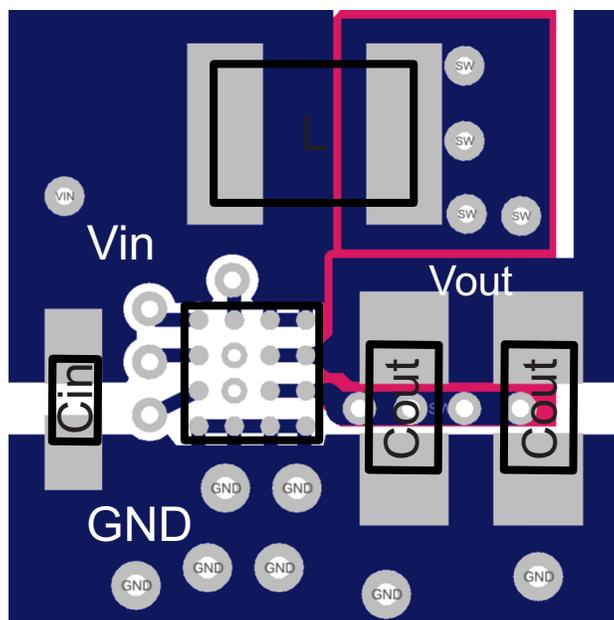

图 65. Suggested Layout (Top)
- Place the output capacitor(s) as close as possible to GND and V_{OUT} , as shown in 图 65.